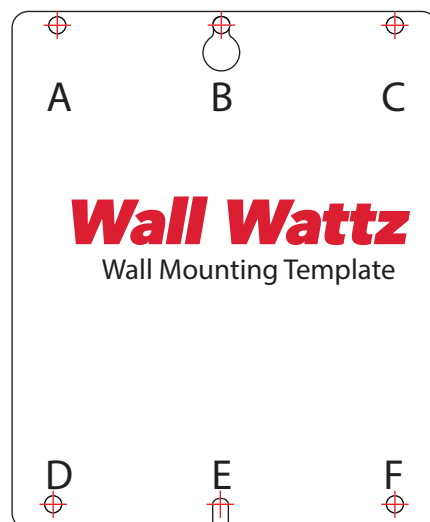

Figure 5. WallWattz Wall Mounting Template - Enclosure Mounting Holes
3. Tape the wall mounting template (Figure 5) against the mounting surface location (either the plywood or a wall stud) at a height that complies with local requirements. Each hole for a screw is marked with a red crosshair in the illustration. Mark the center of each crosshair on the wall as directed in the following instructions in the steps below.
4. In each location where there is a crosshair, mark the hole on the wall mounting surface (Figure 5).
- b. One person must lift and place the WallWattz enclosure against the wall stud over crosshair marks for holes B and E of the enclosure (Figure 5).